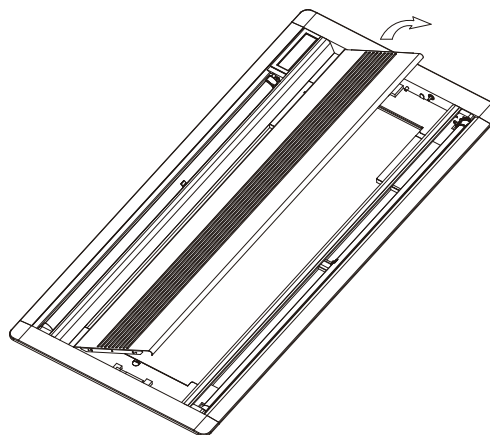

Figure 3.14
- (3) Open the air inlet grille to about 45°, and then open the other side of the suspension buckle as shown in Figure 3.14.